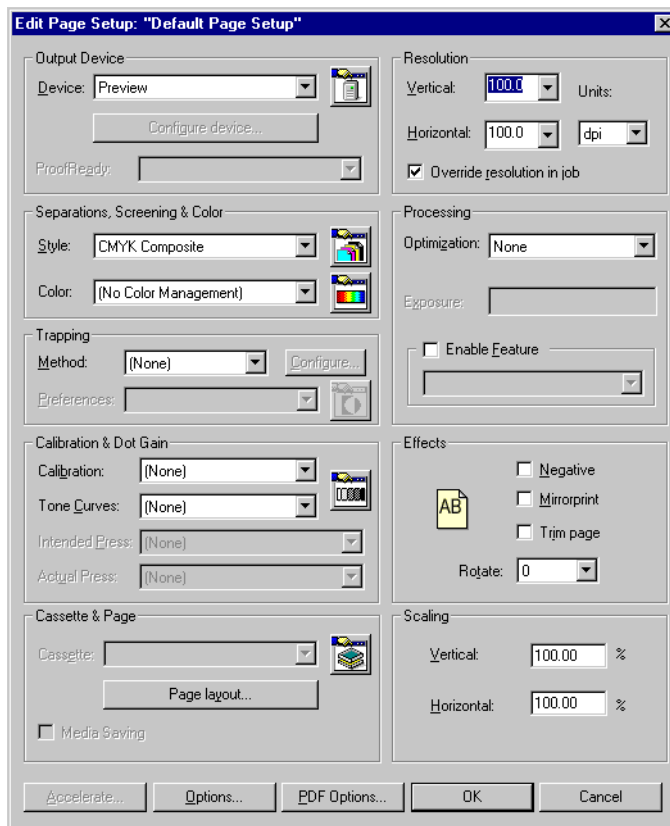

Figure 3.2 Edit Page Setup dialog box
3. In the Edit Page Setup dialog box, shown in Figure 3.2, set the **Device** to `None` and the **Vertical** and **Horizontal** resolutions to something small, say 72 dpi. If you change the **Device**, you must choose a separations style listed in the **Style** drop-down list and, for some devices, a cassette name from the **Cassette** drop-down list.
2. In the Page Setup Manager dialog box, select `Default Page Setup` and click **Copy** to display the New Page Setup dialog box. The New Page Setup dialog box is very similar to the Edit Page Setup dialog box, shown in Figure 3.2 on page 52.